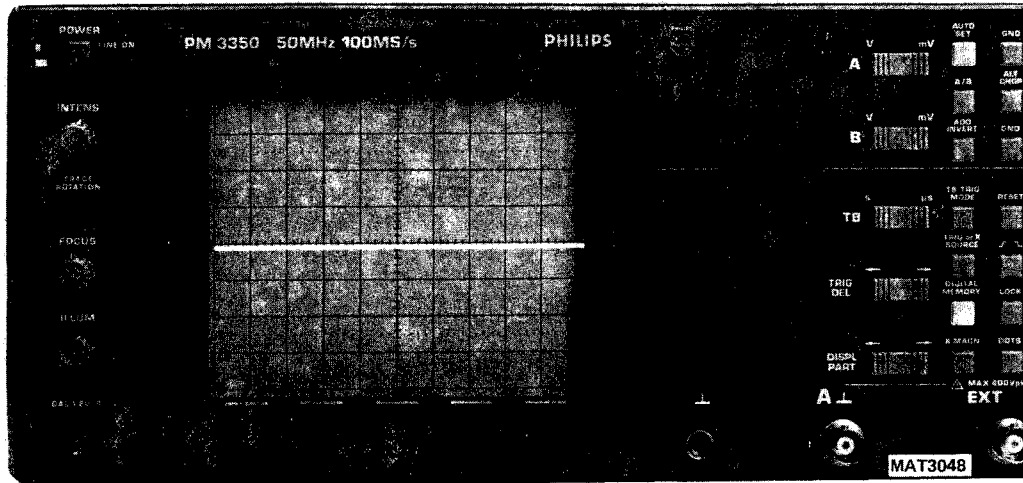

Figure 20.1 SOFTSTART condition
- Check if the frontcontrols are set the softstart condition as indicated in figure 20.1.